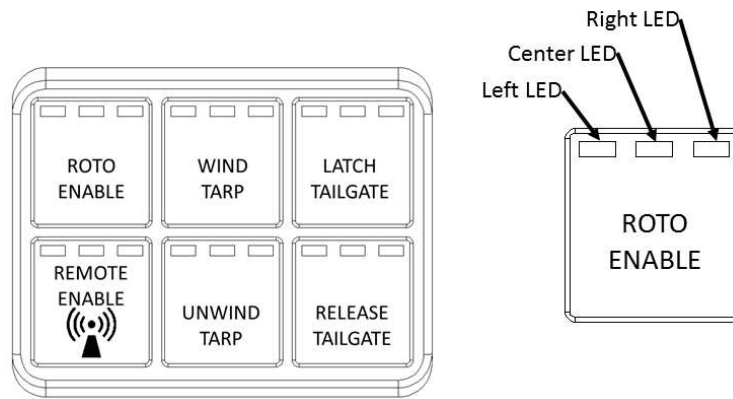

Figure 2.2.2 - Keypad Top View & LED Locations
3. Press the "ROTO ENABLE" button found on the keypad. All 3 LEDs will illuminate on this button when the ROTO 180 system in enabled, see Figure 2.2.2. If the left LED blinks when this button is pressed, the PTO has not been engaged. If the right LED flashes during this step, reference Section 3.4 for troubleshooting the fault code(s).